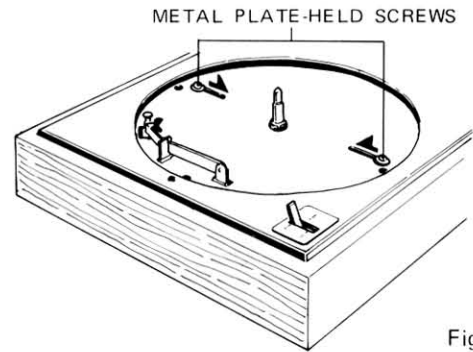

Fig. 18
1. Loosen 2 metal plate-held screws with which the base plate is fastened, then move the screws toward the center shaft (Figs. 18, 19).